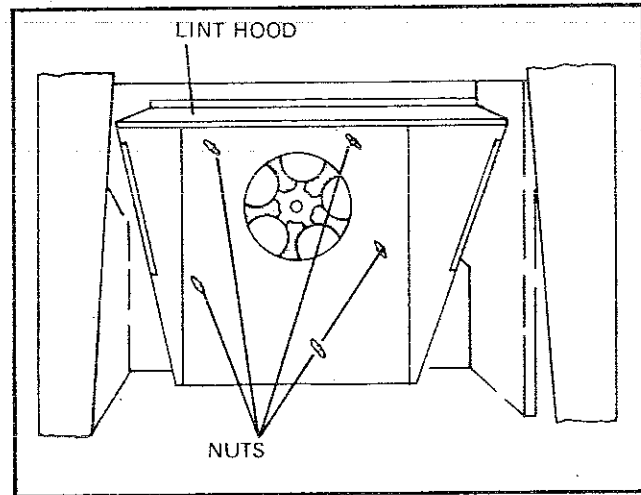

Figure 3-3. Lint Trap Hood
3. Remove the six hex nuts that secure the lint trap hood to the blower housing assembly. Pull out to remove lint trap hood (Refer figure 3-3).